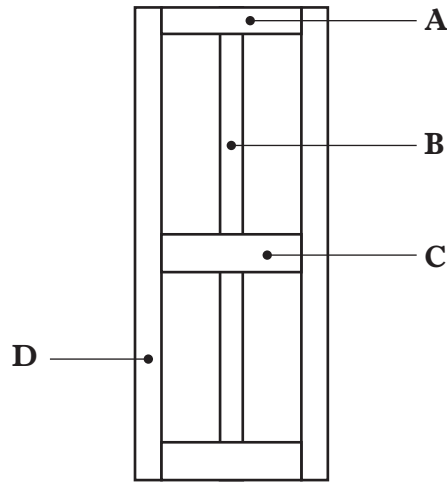

Figure Q5(b)
- (b) Name the component parts A to D of the 4 panel internal door shown in **Figure Q5(b)** below. 2